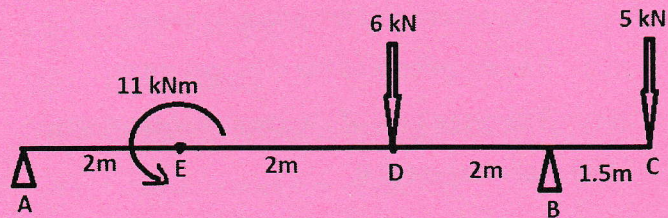

Fig.3
7. Draw shear force and bending moment diagrams for the beam shown in fig 3. 20